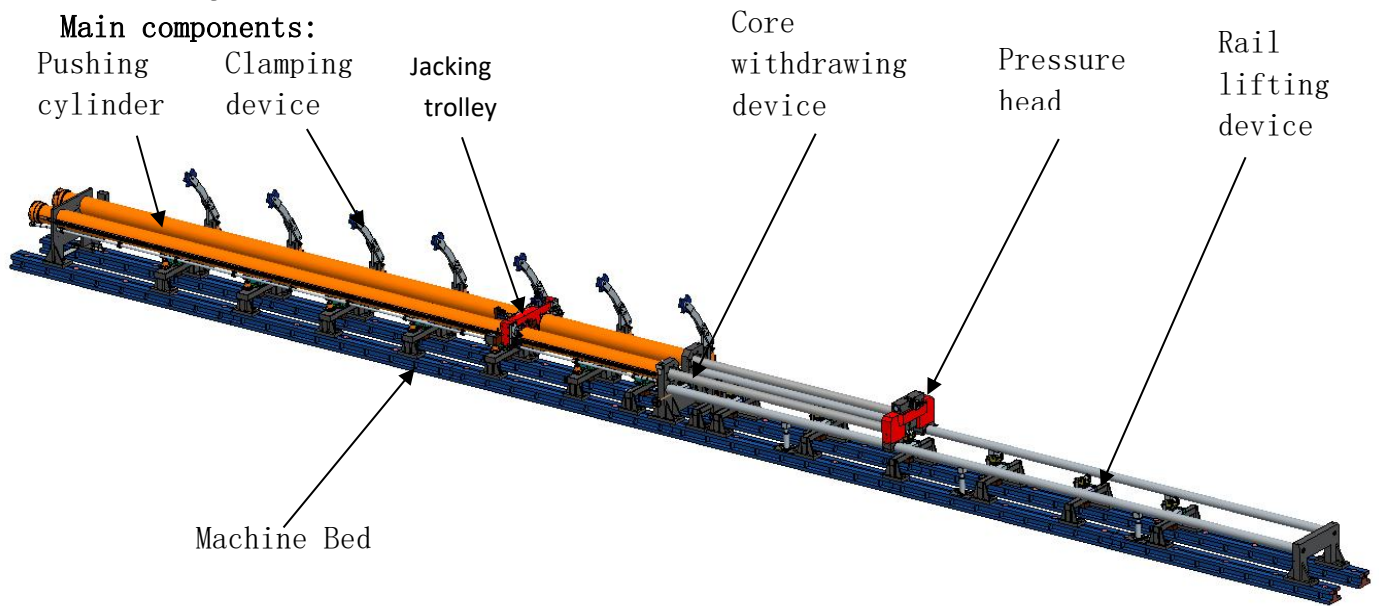

Figure 5. Main Machine Structure
3.1Main Machine Body (See Figure 5)